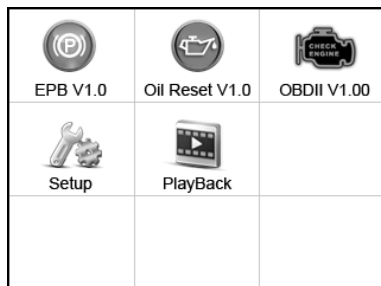

Figure 3.1
- 4) Power up the scan tool , and wait for the **Main Screen** to appear.(figure 3.1)
- 1) Use the **LEFT/RIGHT** scroll button to select **Playback** from **Main Screen** (Figure 3.1), and press the **OK** button. Wait for the **Replay** screen to appear.
- 5) Turn on the scan tool. Select **OBDII V1.00** from the **Main Screen**. (Figure 3.1)